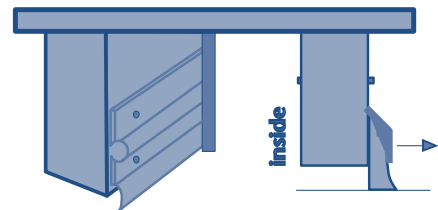

Figure 19: Door sweep.
- **Sweeps** are useful for stopping air leaks under doors with flat thresholds, (Figure 19). Sweeps are metal strips with rubber or vinyl extensions, though some have "brush" extensions. While they're easy to install, they may catch on carpeting or rugs. Remove the door from its hinges and measure the bottom edge with a tape measure. If the sweep isn't pre-sized, cut it to fit 1/6 of an inch in from the edges of the door. Some sweeps are made to fit the inside edge of the door, while others fit the outside edge, so be sure to check the manufacturer's instructions before installation.